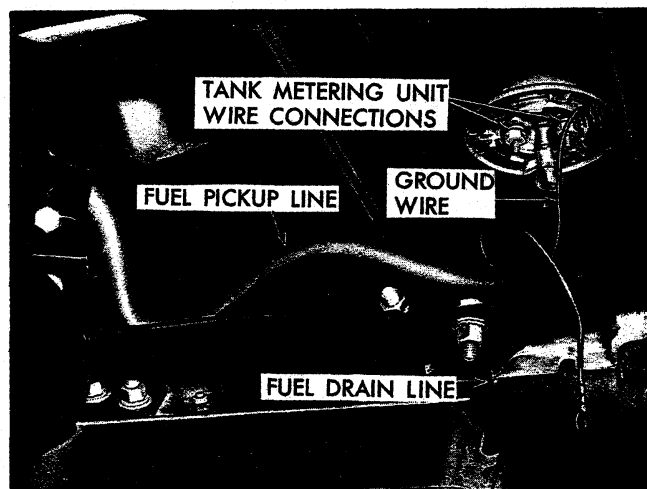

Fig. 25—Fuel Tank Metering Unit, Wires and Lines
7. Remove fuel tank metering unit wires (fig. 25).
7. Attach tank metering unit wires (fig. 25).